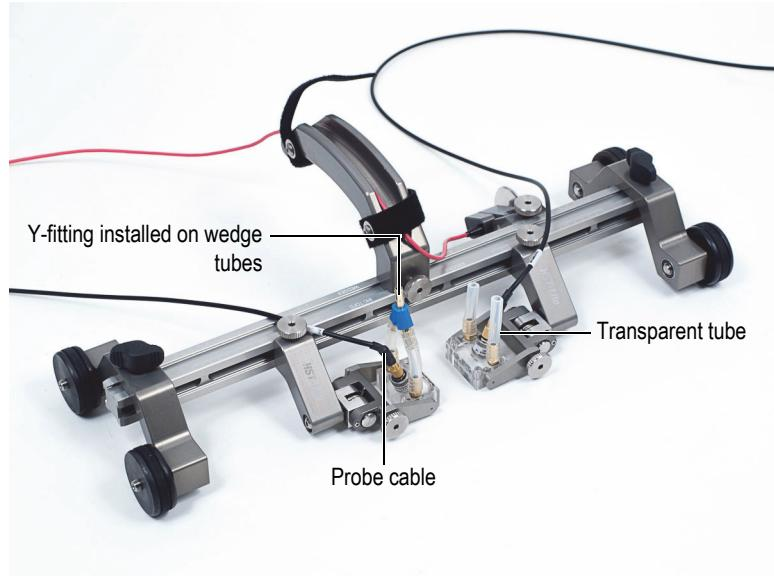

Figure 1-11 Transparent tubes installed on the wedges
5. Install the four transparent tubes on the wedges (see Figure 1-11 on page 27).
6. Install a Y-fitting on each pair of transparent tubes (see Figure 1-11 on page 27).